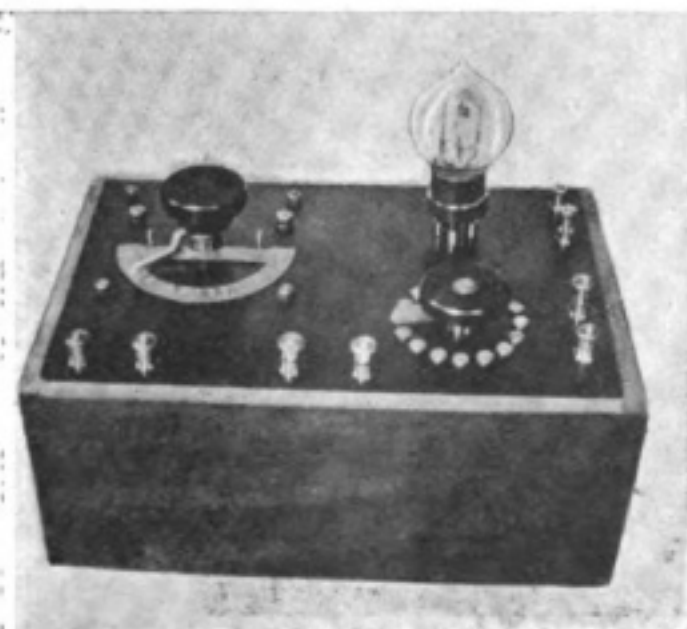
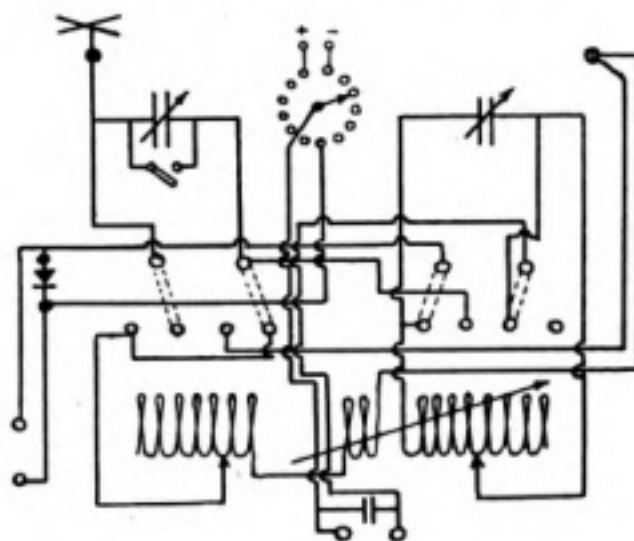

Fig. 5.
Fig. 6.
F.I. faint but readable with aerial and earth disconnected. Fig. 5 shows the C.W. receiver and amplifier, and Figs. 6 and 7 the tuner and amplifier circuits respectively.